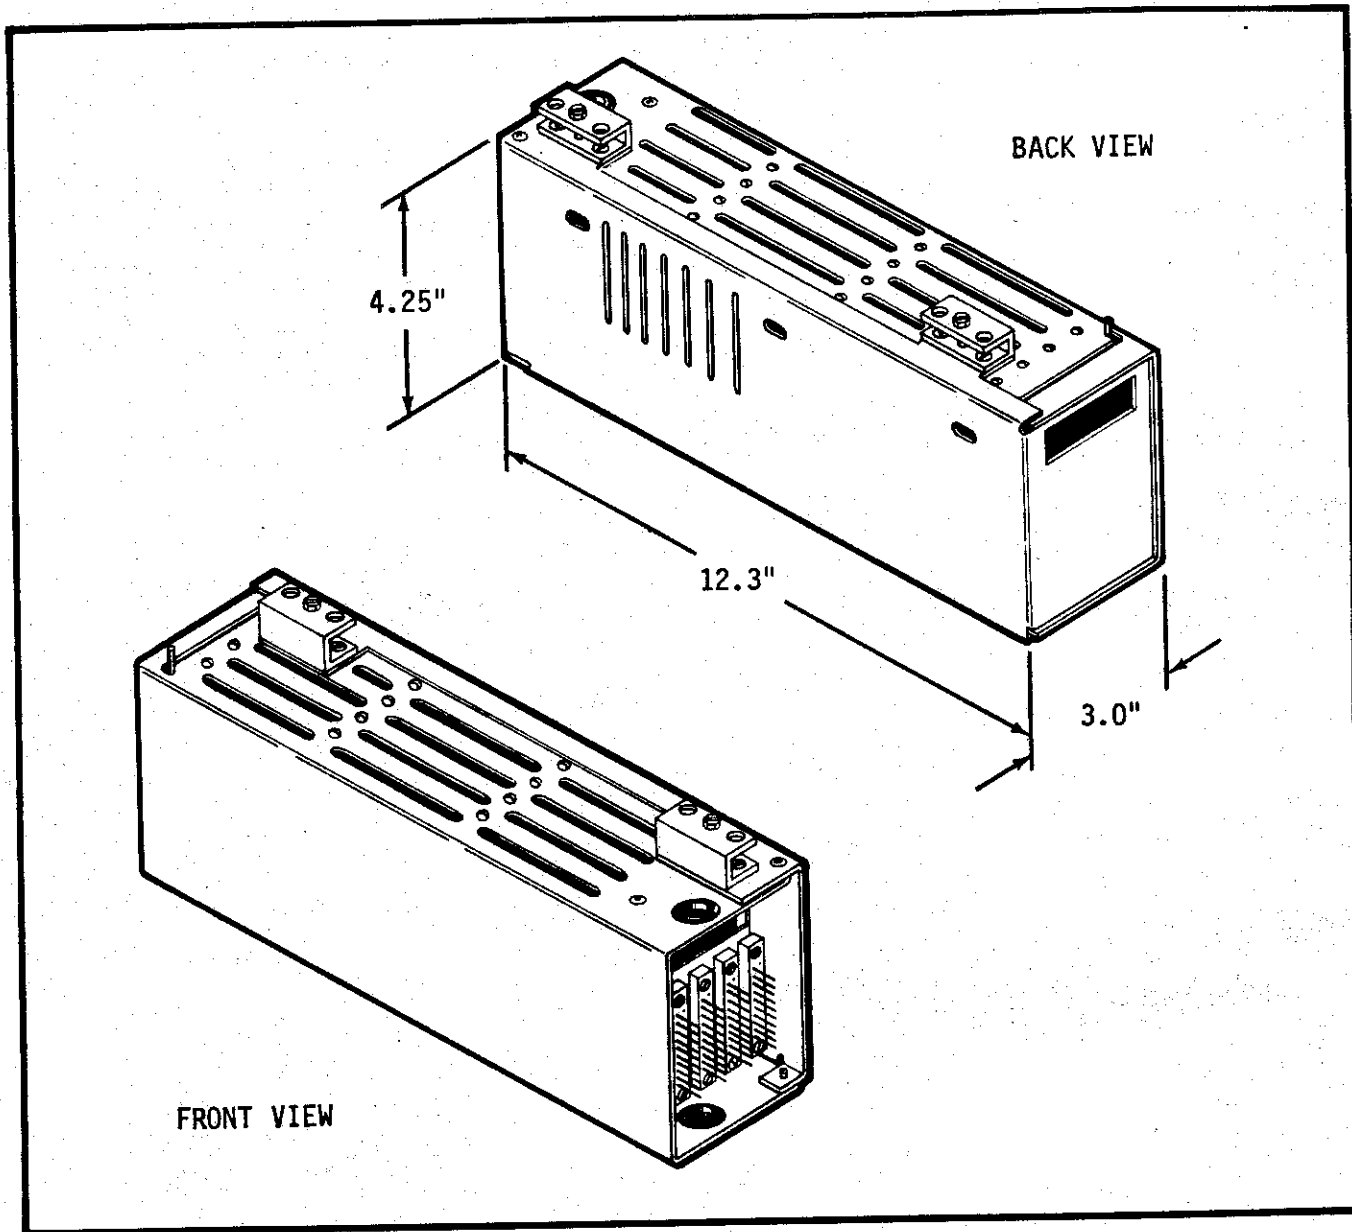

Figure 4 CF-168-31 Card File
**4.03** Each CF-168-31 card file can house up to four converters, is specially designed for mounting behind linefinder banks (see Figures 4, 8, and 9) and has an insulative epoxy finish. Three screw holes are provided in the back plate of the CF-168-31 card file to allow wall mounting.